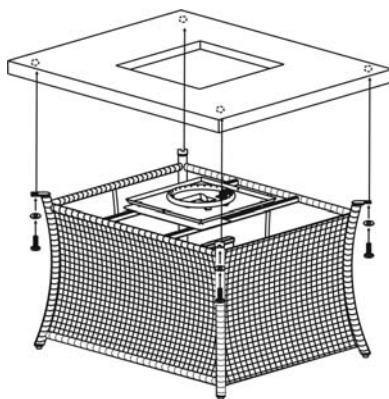

Figure 4
2. Place the firepit tabletop (not included) onto the firepit base. Secure the tabletop to the firepit base by using the 1/4 x 20 mm bolts and washers that are provided. See Figure 4.